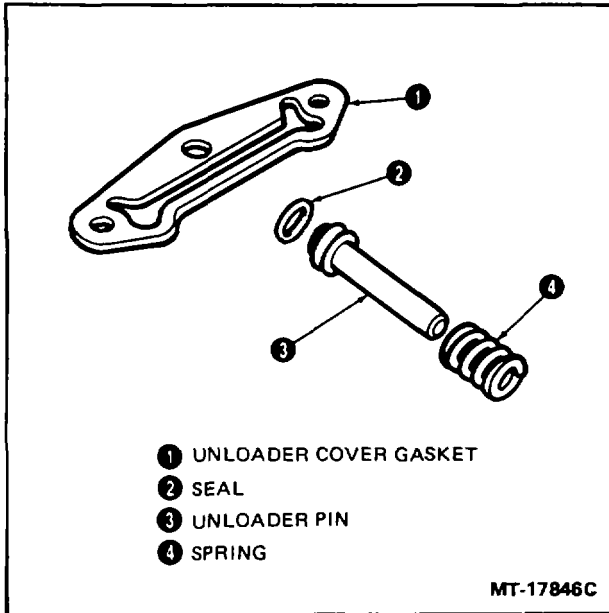

Figure 4 - Unloader Components
4. Remove unloader pins with seals and unloader springs (Figure 4). Discard seals and cover gasket.